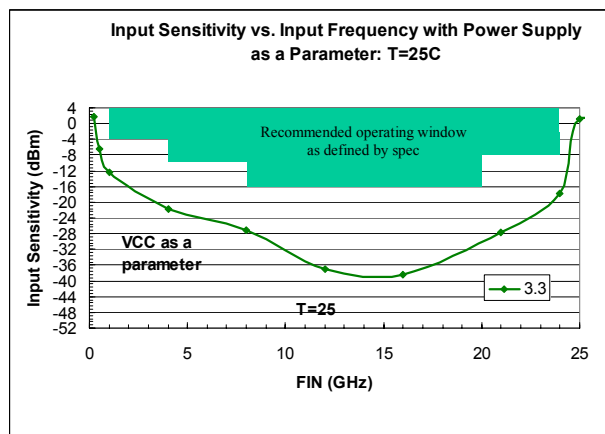

Figure 1. Input sensitivity over input frequency for $V_{cc} = 3.3V$ at an ambient temperature of 25 C
7. Replaced figures 1 through 10 in the Typical Operating Characteristics section (pages 4 & 5).